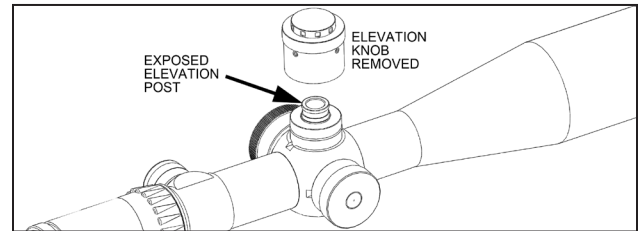

Figure 1.
1. Remove the Schmidt & Bender elevation knob to expose the elevation adjustment post. Figure 1.